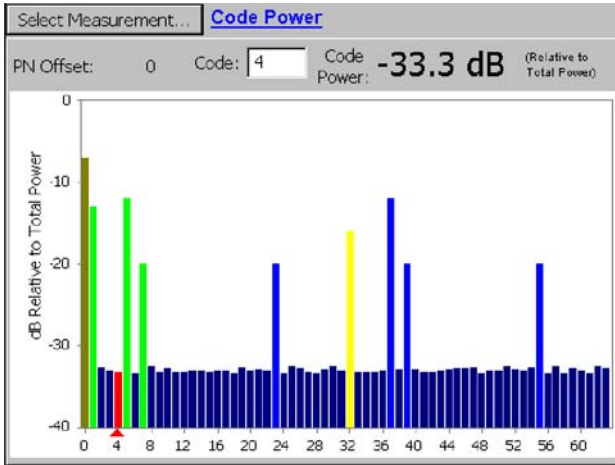

Figure 3-53: cdmaOne Code Power display
5. Tap **Code Power**. See Figure 3-53.
See Figure 3-53. The upper graph shows a magnified section of the lower graph. Use the scroll bar at the bottom of the window to scroll the upper graph.